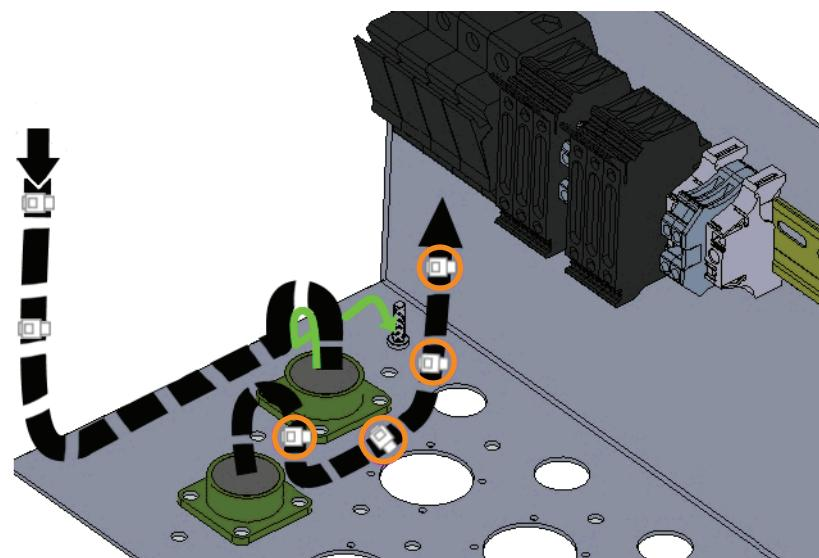

Figure 5 Route Harness Wires to Bottom of Fuse Block
Step 1. Form a drip loop and route the harness wires to the bottom of the fuse block for field wiring. See *Figure 5*.